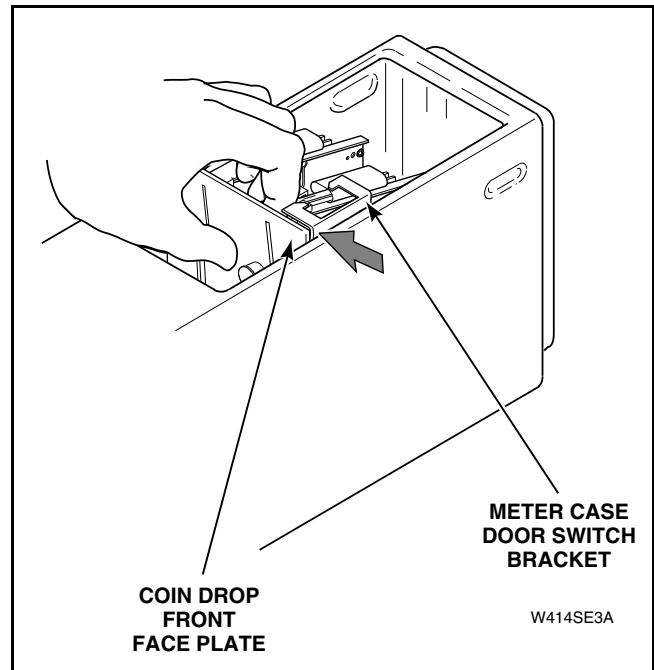

Figure 21
- (2) Carefully pull front of coin drop up and forward, so the drop's front face plate clears the meter case's door switch bracket. Refer to *Figure 21*.
(4) Grasp top of coin drop front face plate between the two drops, as shown in *Figure 21*.